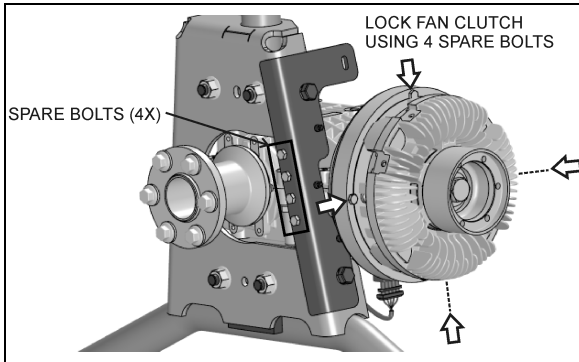

FIGURE 24: MECHANICAL LOCKING 05124
3. Unscrew and remove the 4 spare M6x12 hex bolts screwed to the angle on the fan gearbox mounting support (FIGURE 24).